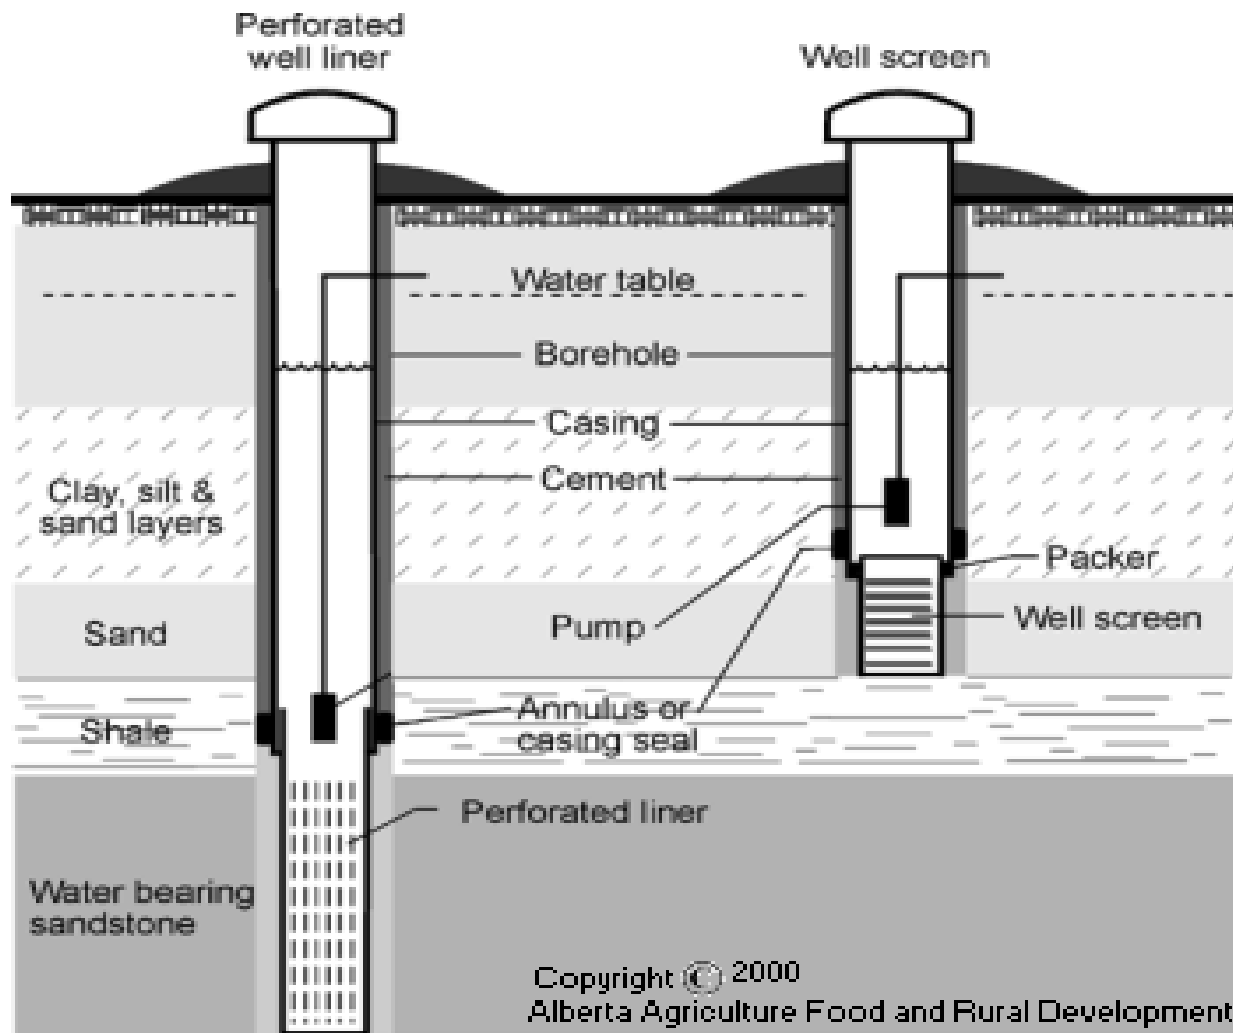

Fig. 1. *Perforated Well Liner and Well Screen*
- ▶ Perforated well casing/liner vs. well screen (see Figure 1, Perforated Well Liner and Well Screen)